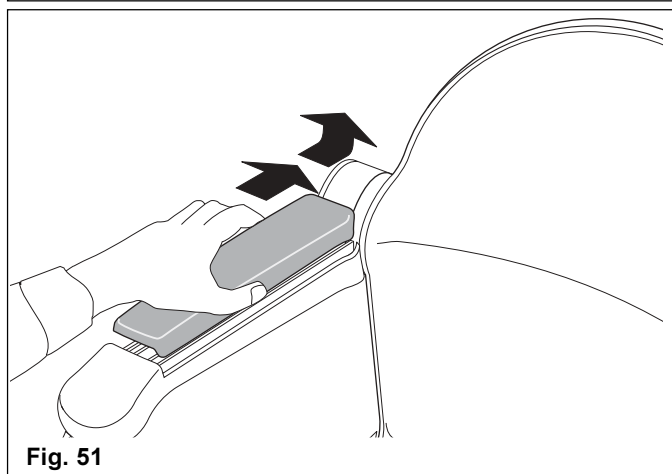

Fig. 51
- 2 Remove both armrest pads by pushing backwards as shown in the illustration until the keyhole slots disengage (Fig. 51)